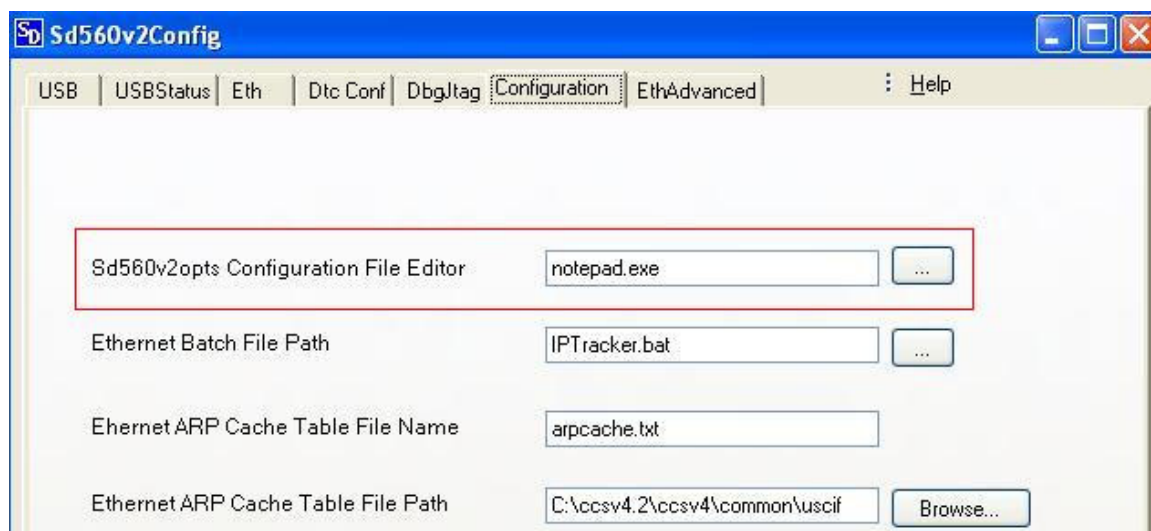

FIGURE 5: Sd560v2Config Configuration tab
- By default, the sd560v2opts.cfg opens in a notepad. The default editor can be changed on the configuration tab under the option 'Sd560v2opts Configuration File Editor' as shown in Figure 5 below.